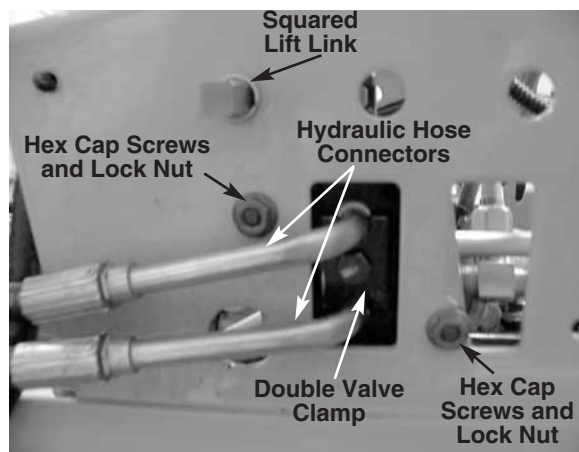

FIGURE 1.
2. Remove the double valve clamp from the valve body using a 7/16 socket. See figure 1.
3. Remove both hydraulic hose connectors coming from the hydraulic lift cylinder to the valve body. See figure 1.